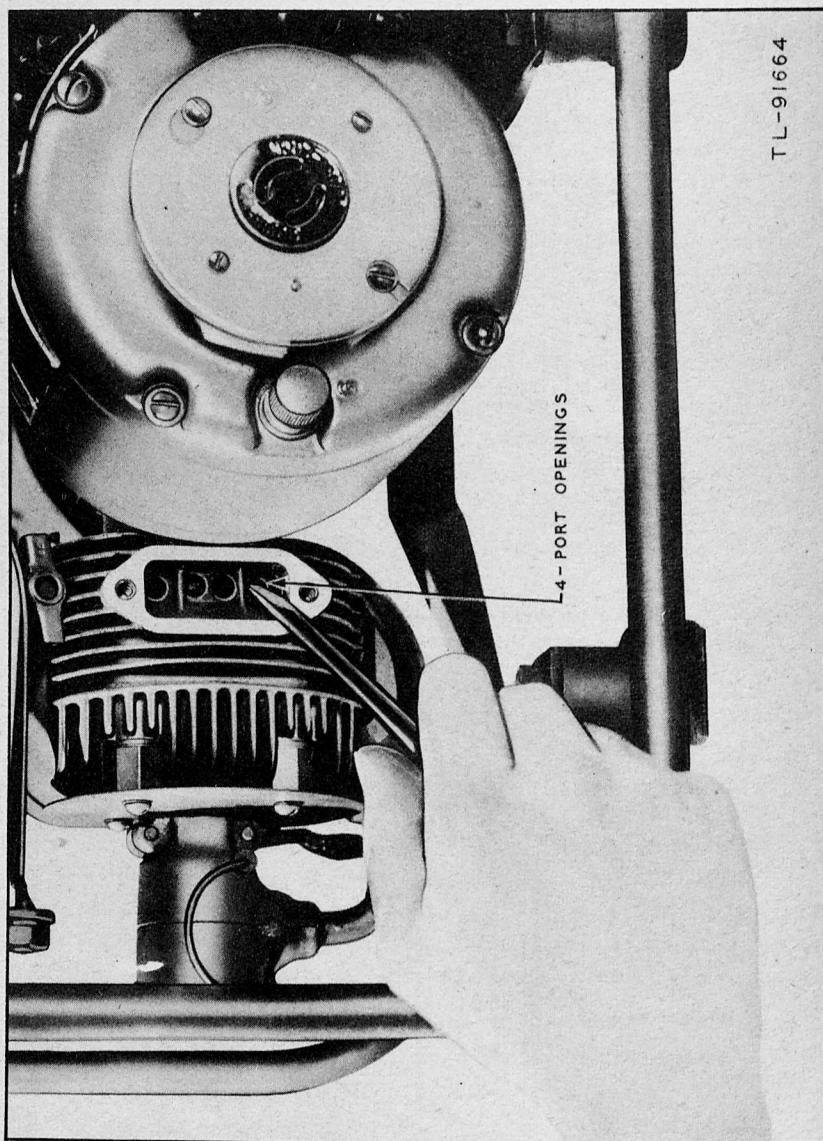

Fig. 15—Carbon Removal — Exhaust. Ports
(1) Exhaust ports. To clean out the exhaust port holes (fig. 15), remove the muffler (445). Turn the engine over by hand until the piston reaches bottom dead center. Clean out the port openings, using the screw driver (456A) furnished with the equipment. Turn the engine over several times to permit carbon chips an opportunity to pass out of the engine before reinstalling the muffler.